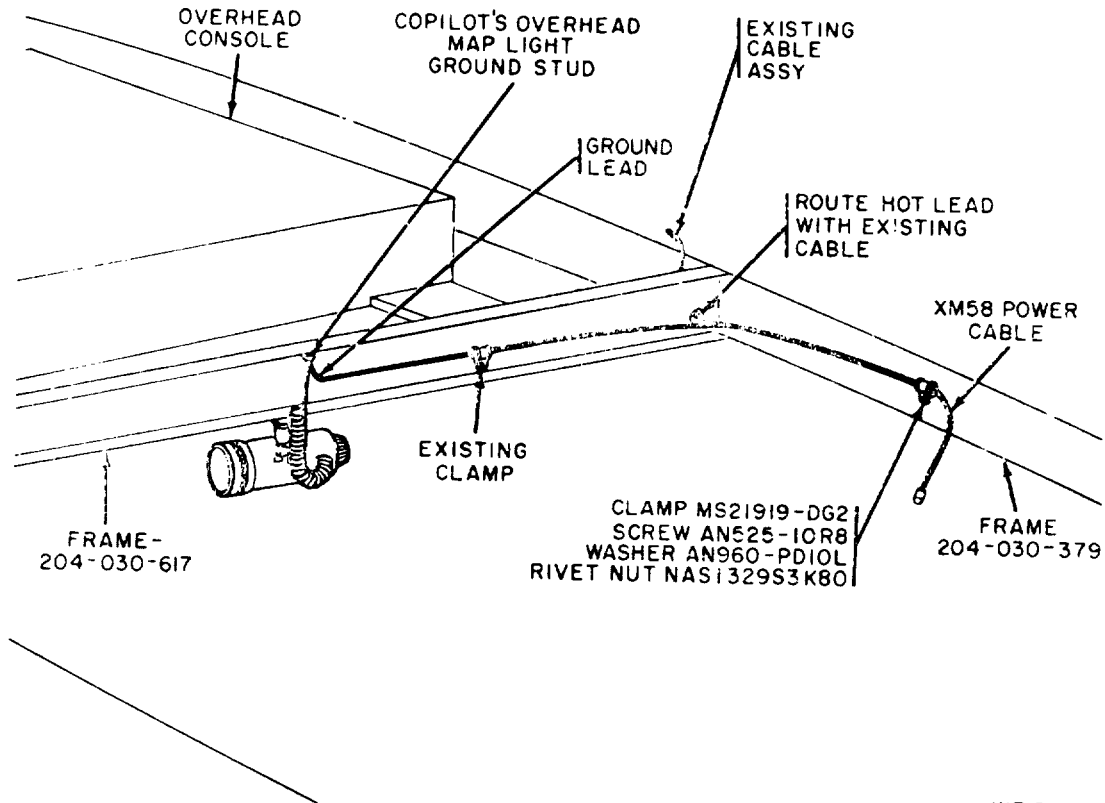

Figure 31.12. Power cable installation (ground lead).
- (6) Install one screw (10) with washer (11) through each support tube into inboard bracket. Replace screw (1) and washer (2).
- (7) Tighten and torque all bolts, nuts and screws installed in b and c above leaving screws (7) until last to compensate for any misalignment.
d. Install the Power Cable Assembly. The general routing of power cable is shown in figure 31.11; and details are shown in figures 31.12 and 31.13. Installation should start at the J2 connector on the control box (sight assembly group) and end at-the aircraft circuit breaker now marked XM58 POWER.
- (1) Install blind rivet nut, NAS1329S3K80,
in the 1/4-inch hole in frame, 204-030-379 (fig. 31.12).
- (3) Separate the hot and ground leads. Run the ground lead through existing clamps to grounding lug of co-pilot's overhead map lamp. See figure 31.12. Attach the number 10 stud size terminal to ground